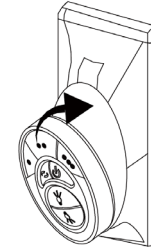

Fig. 26
Step 1. To place the transmitter in the wall plate, put the bottom end in first and then press the top into the wall plate. The transmitter is now held in the wall plate and will function from here. (Fig.26)